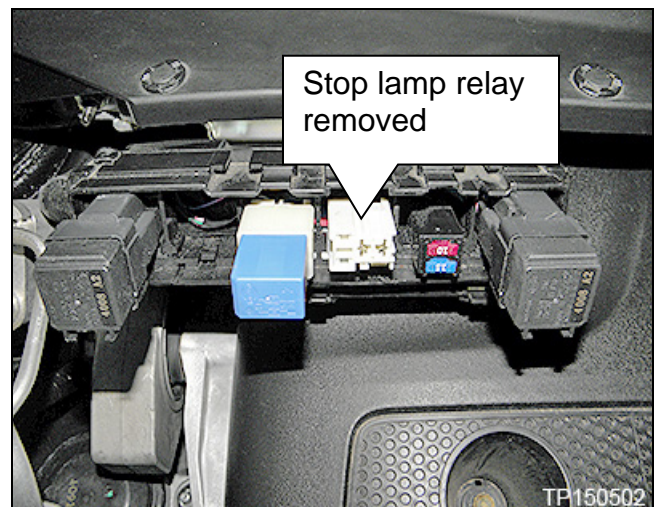

Figure 2
3. Remove the stop lamp relay (Figure 2).